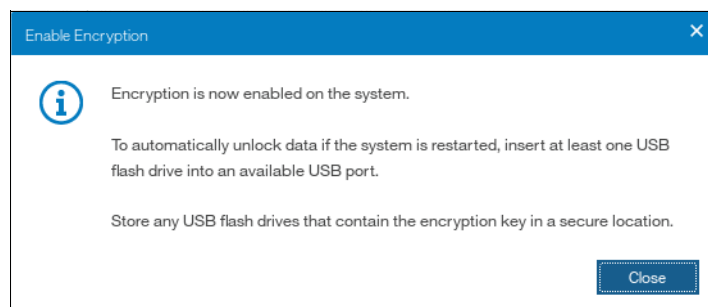

Figure 13-28 Encryption enabled message using USB flash drives
6. You receive a message confirming that the encryption is now enabled on the system, as shown in Figure 13-28.